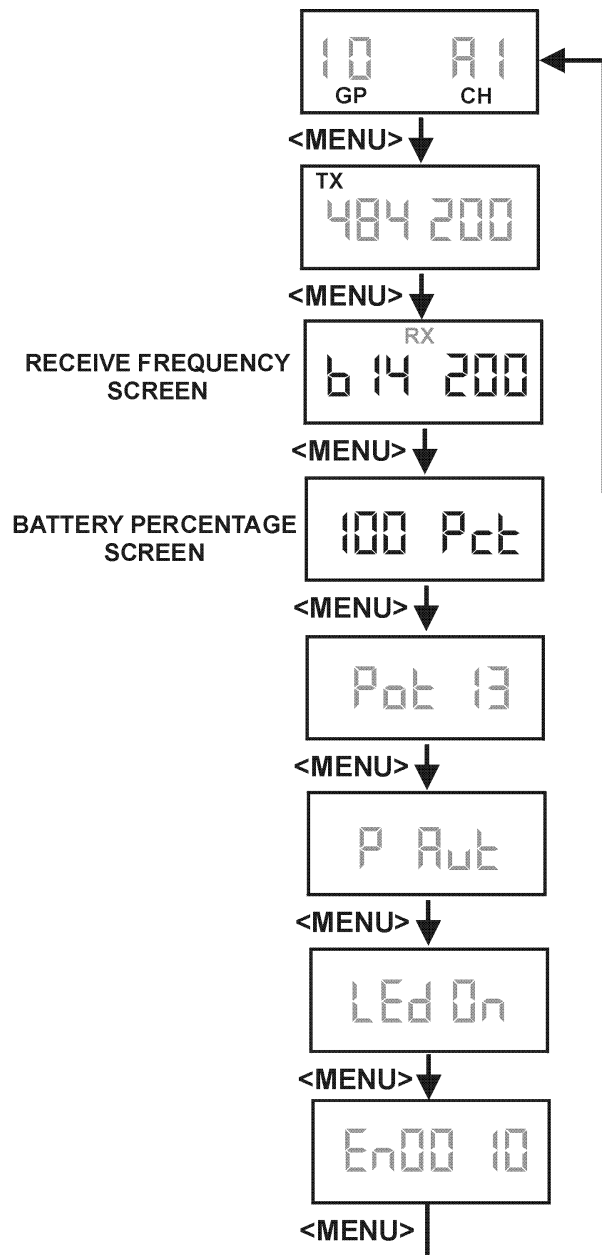

Figure 7-6
1. Set the unit to the desired user defined group and channels. See groups and Channels Instructions. The menu structure at the right (Figure 7-6) indicates how to get to the receiver frequency screen.